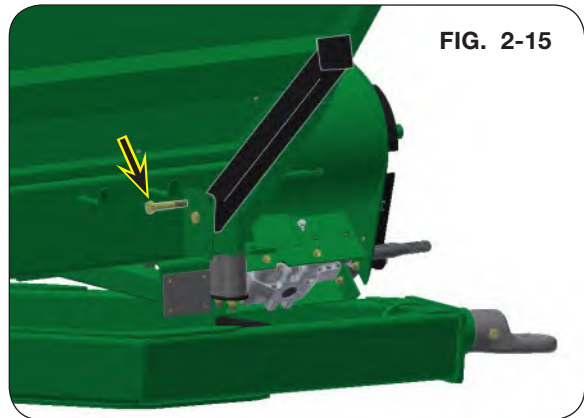

FIG. 2-15
20. Remove the 1"-8UNC x 6" capscrew (9390-195) and 1"-8UNC elastic locknut (9398-026). Rotate the support stands (299580B) upwards. Reinstall the 1"-8UNC x 6" capscrew (9390-195) and 1"-8UNC elastic locknut (9398-026). Repeat process on the opposite side of the grain cart. (FIG. 2-15)
21. Torque 1" hardware to 500 ft.-lbs. (FIG. 2-15)